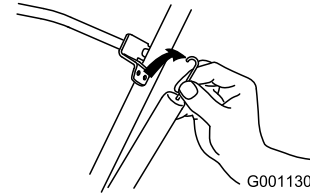

Figure 20
1. Unhook the end of the control cable spring from the control bar (Figure 20).